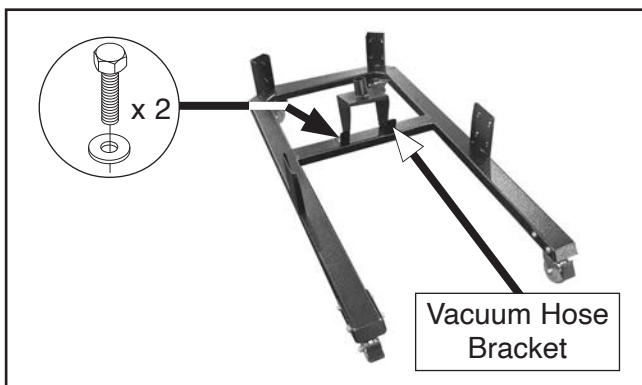

Figure 18. Vacuum hose bracket fastened to stand base.
3. Fasten vacuum hose bracket to stand base using (2) $\frac{5}{16}$ "-18 x $\frac{3}{4}$ " hex bolts and (2) $\frac{5}{16}$ " flat washers (see **Figure 18**).